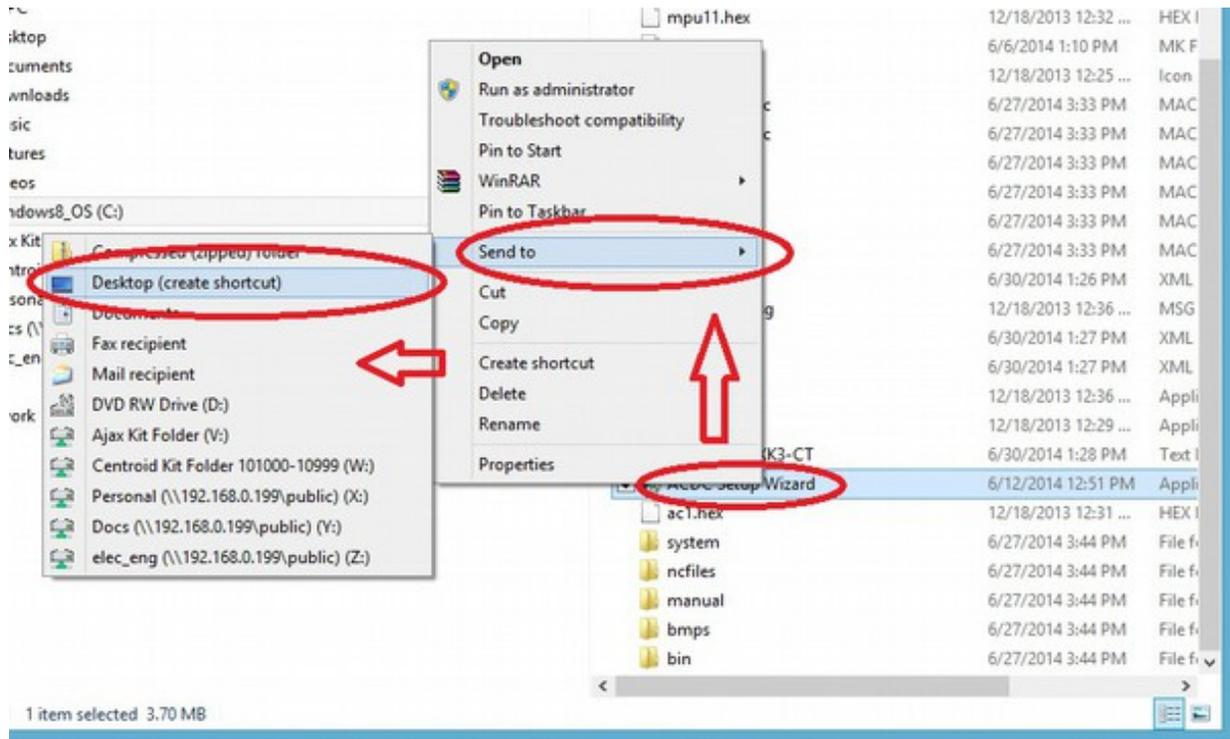

Figure 3.3.5
4. Select “**Desktop (Create Shortcut)**” as shown in Figure 3.3.5